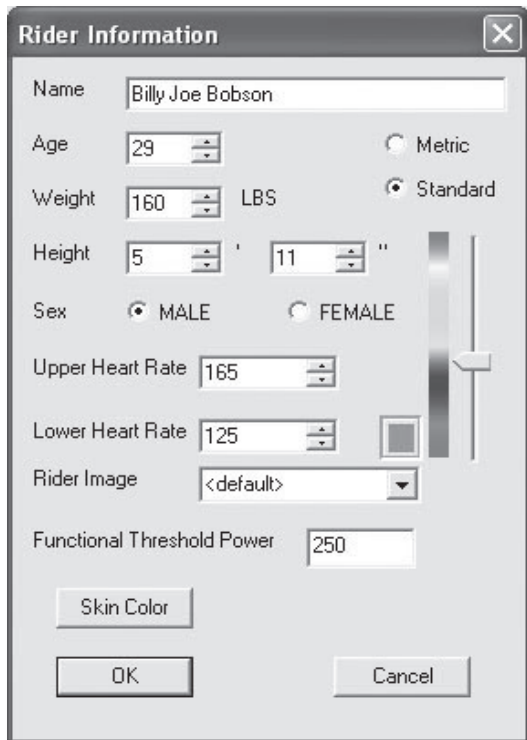

Fig. 1 Creating a Rider Information File
- 2 Left-click on **New** in the *Rider Section* at the bottom of the Options Screen. The Rider Information window (fig. 1) will open to allow input of rider information.